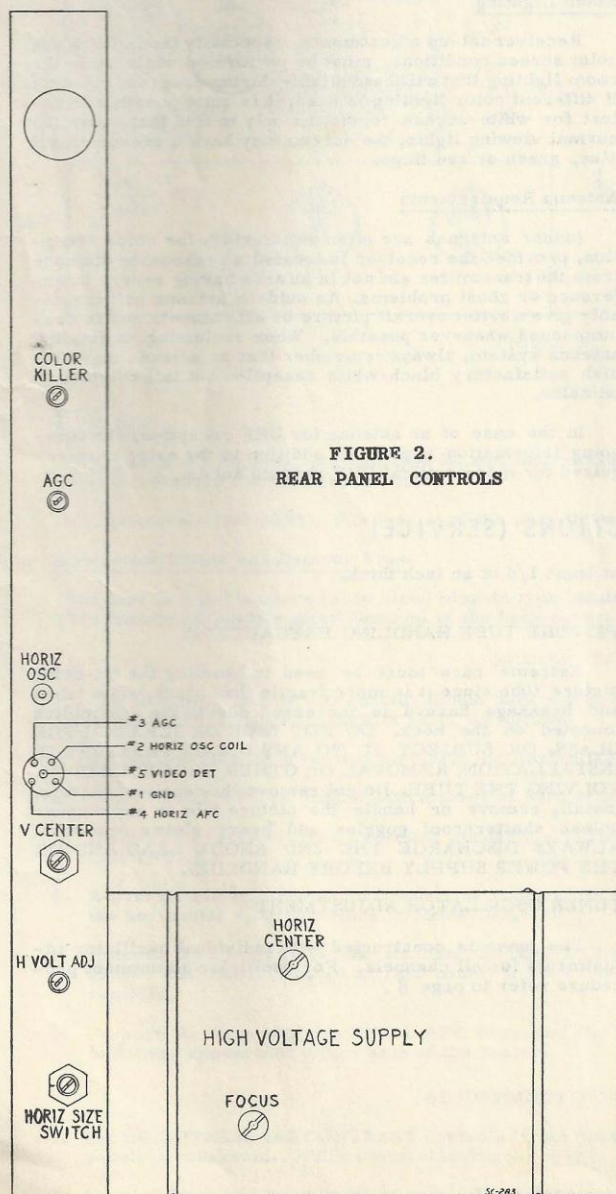

FIGURE 2.
REAR PANEL CONTROL ADJUSTMENTS (See Figure 2 for control locations)
4. SERVICE TEST RECEPTACLE... See Figure 2 for location and connections.